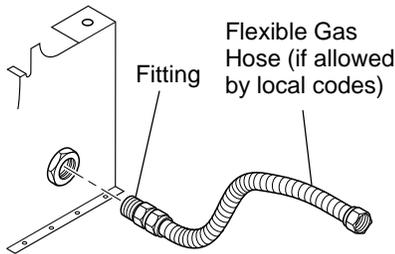

Figure 11 - Attaching Flexible Gas Hose to Heater
1. Apply pipe joint sealant lightly to male threads of the fitting to be threaded into gas control. Connect approved flexible gas hose to gas control fitting in heater (see Figure 11, page 11). **IMPORTANT:** Hold gas fitting with wrench when connecting flexible gas hose.